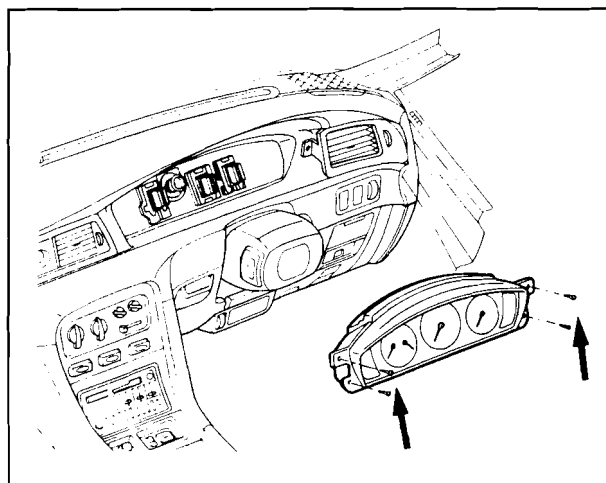

Fig. 3 — Instrument cluster removal
(3) Remove the four instrument cluster retaining screws, refer Fig 3, and gently pull the cluster forward and out.